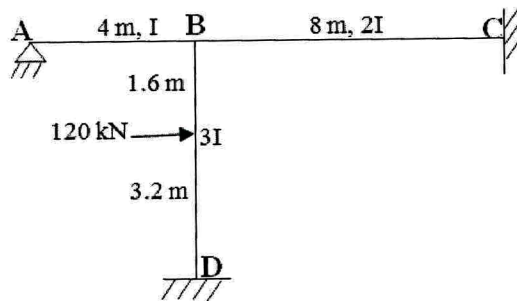

Fig.9
15. a) Using the direct stiffness approach, analyse the frame shown in Fig. 9.